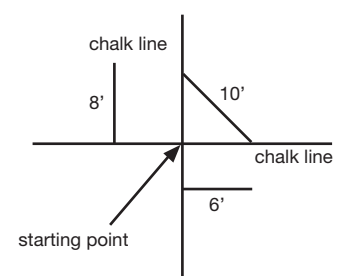

Figure 1
- A second chalk line must be snapped from the starting point at 90° to the first line. This can be accomplished using a 3-4-5, 6-8-10, or larger triangle, depending on the room size. Meters or feet may be used to lay out the triangle in these proportions. **See Figure 1**